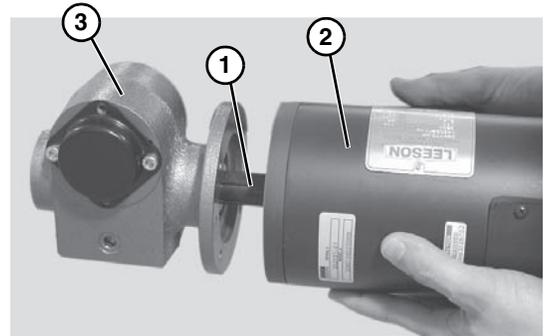

Figure 14
- With key (**Figure 14, item 1**) in keyway, slide motor (**Figure 14, item 2**) and gear reducer (**Figure 14, item 3**) together.